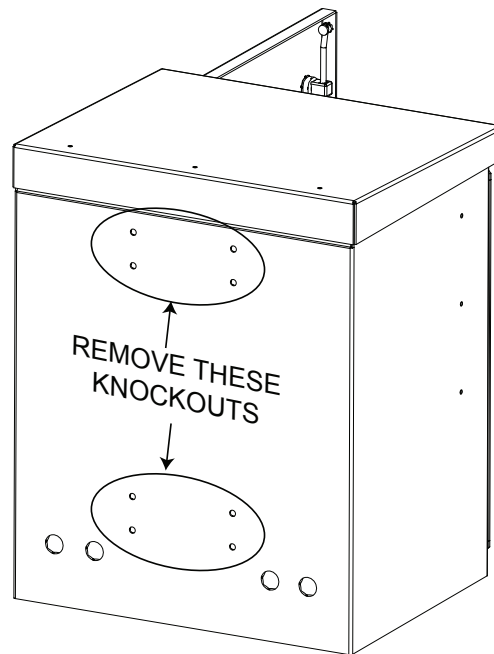

Figure 6.6 - Removing the knockouts
1. Remove the 8 knockouts on the rear panel of the enclosure. (Figure 6.6).